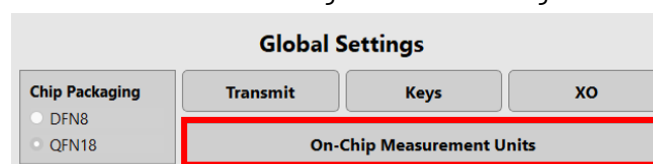

Figure 28 : On-Chip measurement units
- Low Threshold setting only. The input value unit can be determined through “On-Chip Measurement Units” settings as shown in Figure 28 and Figure 29.